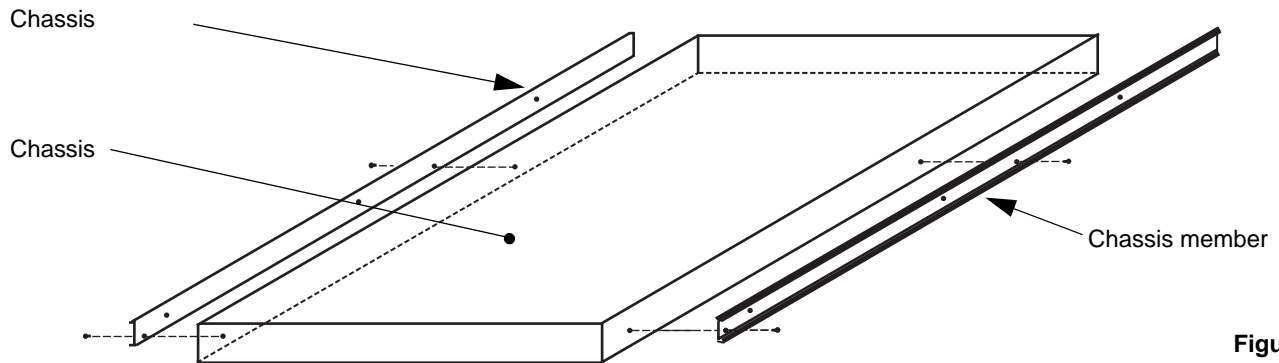

Figure 1
Remove the chassis members from the slides and attach the chassis members to the chassis. Use (4) M3 × 4 mm pan-head PHILLIPS® screws. See Figure 1.